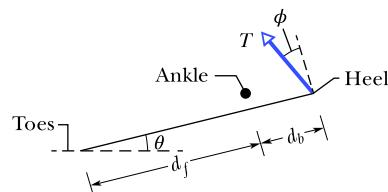

Figure 12.69 Problem 82.
**82 BIO Standing on tiptoes.** In Fig. 12.69, a person with weight  $mg = 700 \text{ N}$  stands on "tiptoes" (actually, the ball of the forefoot) with the weight evenly distributed on each foot and with the plane of each foot at angle  $\theta = 20^\circ$  with the floor. The support is an upward force at distance  $d_f = 0.18 \text{ m}$  from the ankle about which the foot can rotate. At distance  $d_b = 0.070 \text{ m}$  from the ankle, the Achilles tendon (connecting the heel to the calf muscle) pulls on the heel with force  $\vec{T}$  at an angle of  $\phi = 5.0^\circ$  from a perpendicular to the plane of the foot. What is the magnitude of  $\vec{T}$ ?